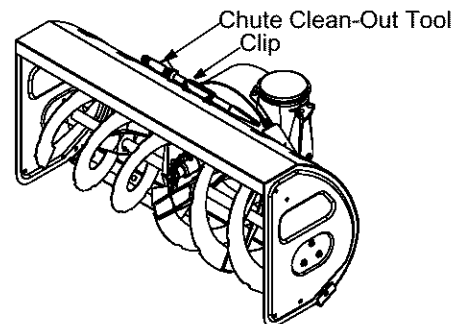

Figure 7
The clean-out tool is conveniently fastened to the rear of the auger housing with a mounting clip. See Figure 7 .
3. Remove the clean-out tool from the clip which secures it to the rear of the auger housing. See Figure 7 .